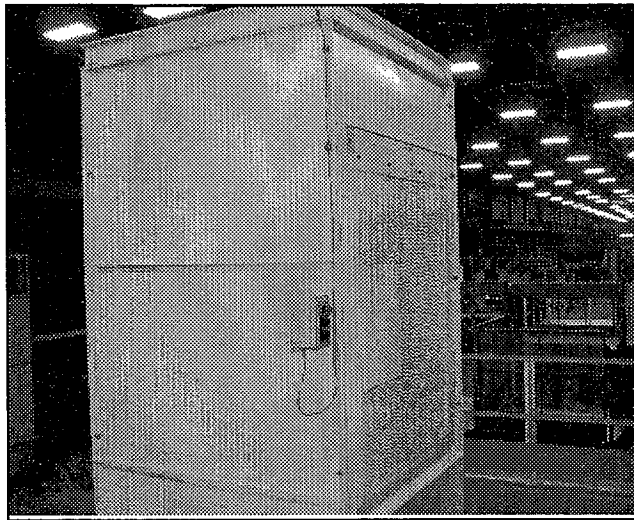

Figure 8
6. Route wires away from any moving components. See Figure 8.